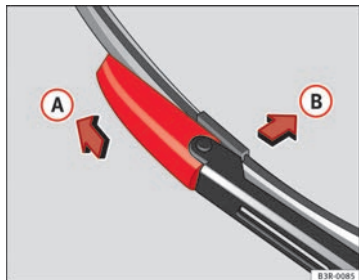

Fig. 185 Removing the wiper blade
- Slide the retainer catch on the wiper blade in the direction indicated ⇒ Fig. 185 (A). Hold onto the wiper blade at the same time.
- Pull the wiper blade (B) out of its mounting on the wiper arm.